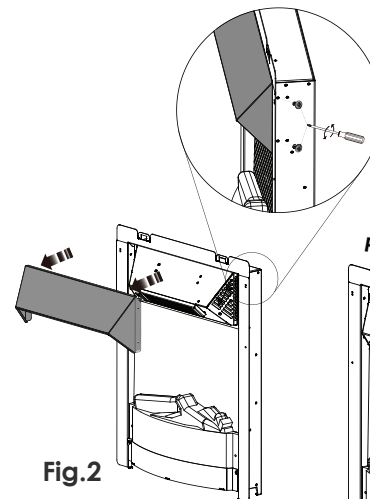

Fig.2
1. Remove 2 bright steel screws on each side of the fire with a screw driver (Fig. 2);
2. Pull the Canopy forward after screws are removed; (Fig. 2);